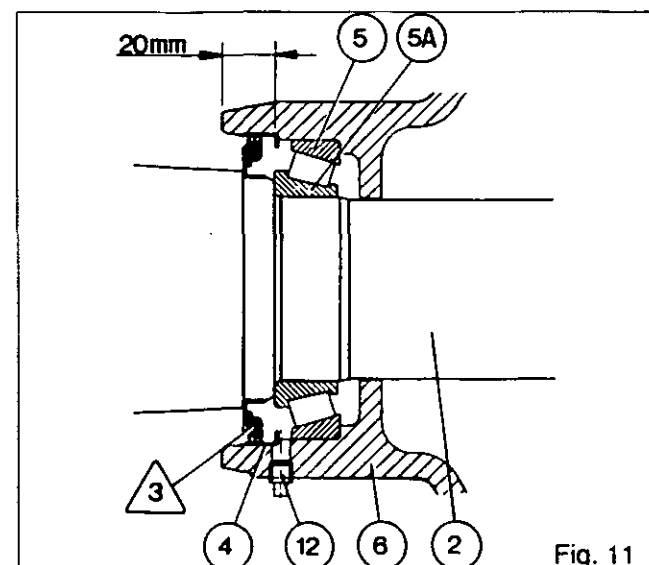

Fig. 11
12. Lubricate the cups (8) and (5) and press them fully on to the shoulder.
13. Press the housing (4) to within 20 mm of the trumpet housing (Fig. 11).
**Note: Ensure that the seal is fitted the correct way round (Fig. 11).**
15. Lubricate the shaft (2) and press the cone (5A) against the shoulder.
17. Protect the splines of the shaft (2) and insert it into the trumpet housing.
21. Replace the plug (12) by a grease nipple. Partly fill the cavity at the end of the trumpet housing between the cone (5A) and the seal /3\ with BP Agri-charge or an equivalent grease. Remove the grease nipple and refit the plug (Fig. 11).